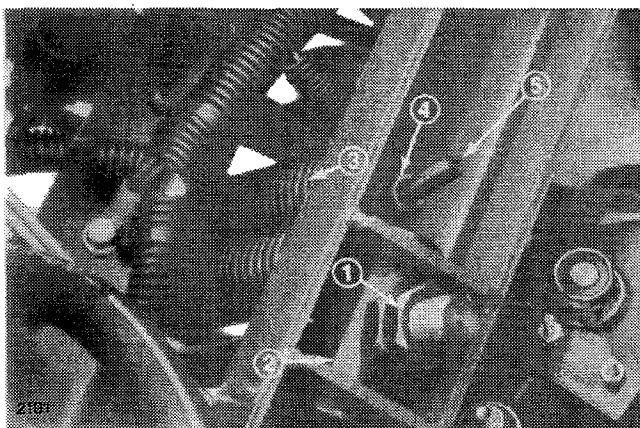

Figure 30
2. Measure distance between cylinder jam nuts and cylinder pivot pin (Fig. 30). Distance should be approximately 2-1/4 inch.